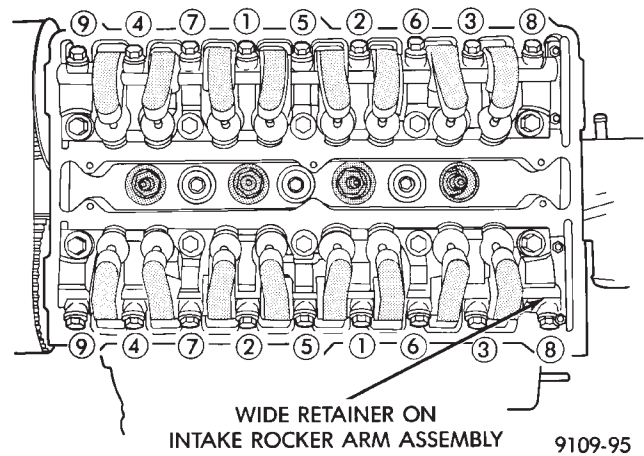

Fig. 13 Rocker Arm Shaft—Installation
- (12) Recheck belt tension, adjust if necessary.
- (13) Torque rocker arm shafts in sequence shown (Fig. 13) to 12 N•m (105 in. lbs.) then to 24 N•m (210 in. lbs.).
- (14) Install valve covers, spark plugs, ignition cables and ignition cable cover.
- (15) Install air cleaner fresh air duct.
- (16) Raise vehicle. Install lower timing belt cover and accessory drive belt tensioner pulley. Refer to procedure in this section.